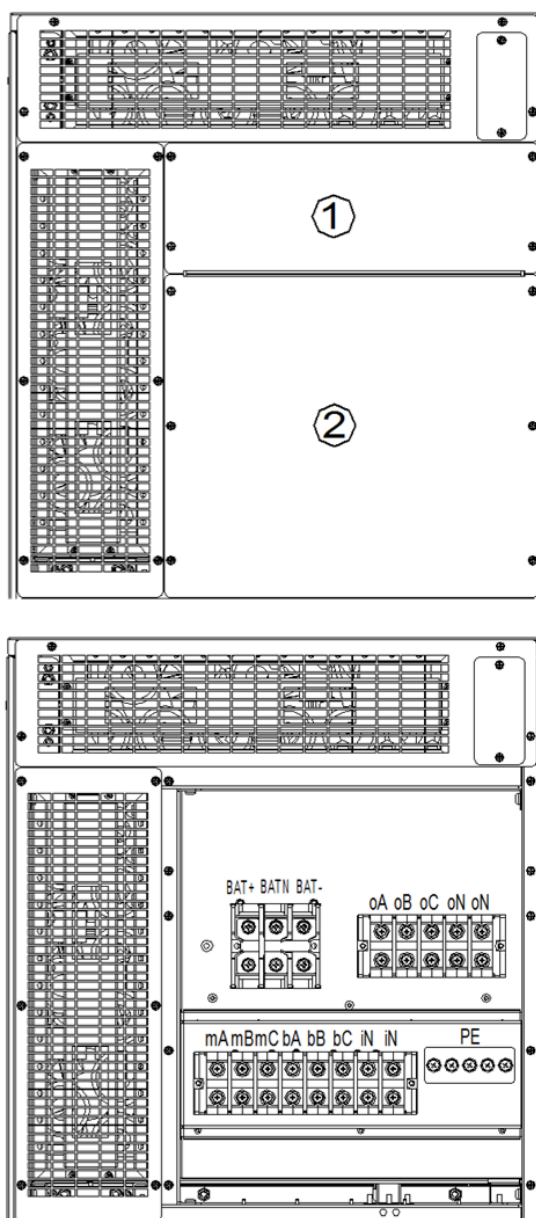

Figure 3-1 Connection terminals and routing method of power cables
The rectifier input, bypass input, output and battery power cables are connected to the corresponding terminals shown in Figure 3-1.
The protective earth cable is reliably connected to the PE input terminal (see Figure 3-1) via the fixing bolt. The PE terminal provides several holes for connecting input PE cable, output PE cable, and external battery PE cable.
Figure 3-1 shows the connection terminals, power cable entry and UPS power cable routing methods.
3. In split bypass configuration, just lead the main input cables (mA, mB, mC, iN, PE), bypass input cables (bA, bB, bC, iN, PE), and output cables (oA, oB, oC, oN, PE) into the cabinet through corresponding cabling hole. Refer *Figure 3-1* to connect power cables to corresponding terminals and fix PE cable to PE terminal. In common input configuration, just lead the main input cables (mA, mB, mC, iN, PE), and output cables (oA, oB, oC, oN, PE) into the cabinet through corresponding cabling hole.
4. If the user adopts external battery, just lead the battery cables into the cabinet through the reserved cabling hole at top of the routing area. Refer *Figure 3-1* to connect power cables to corresponding terminals and fix PE cable to PE terminal.
The common input configuration comes as a standard by default before delivery. Connect the input cables to the mains input terminals (mA-mB-mC-iN) as shown in Figure 3-1. Ensure correct phase rotation.
If external batteries are required, ensure correct polarity of the connections from the battery string terminals to the BCB and from the BCB to the battery input terminals (BAT+, BAT N, BAT-) in the UPS cabinet (see Figure 3-1), i.e., (+) to (BAT+) and (-) to (BAT-), (N) to (BAT N), and disconnect one or more battery cell links in each tier. Do not reconnect these links and do not close the BCB before authorized to do so by the service engineer.